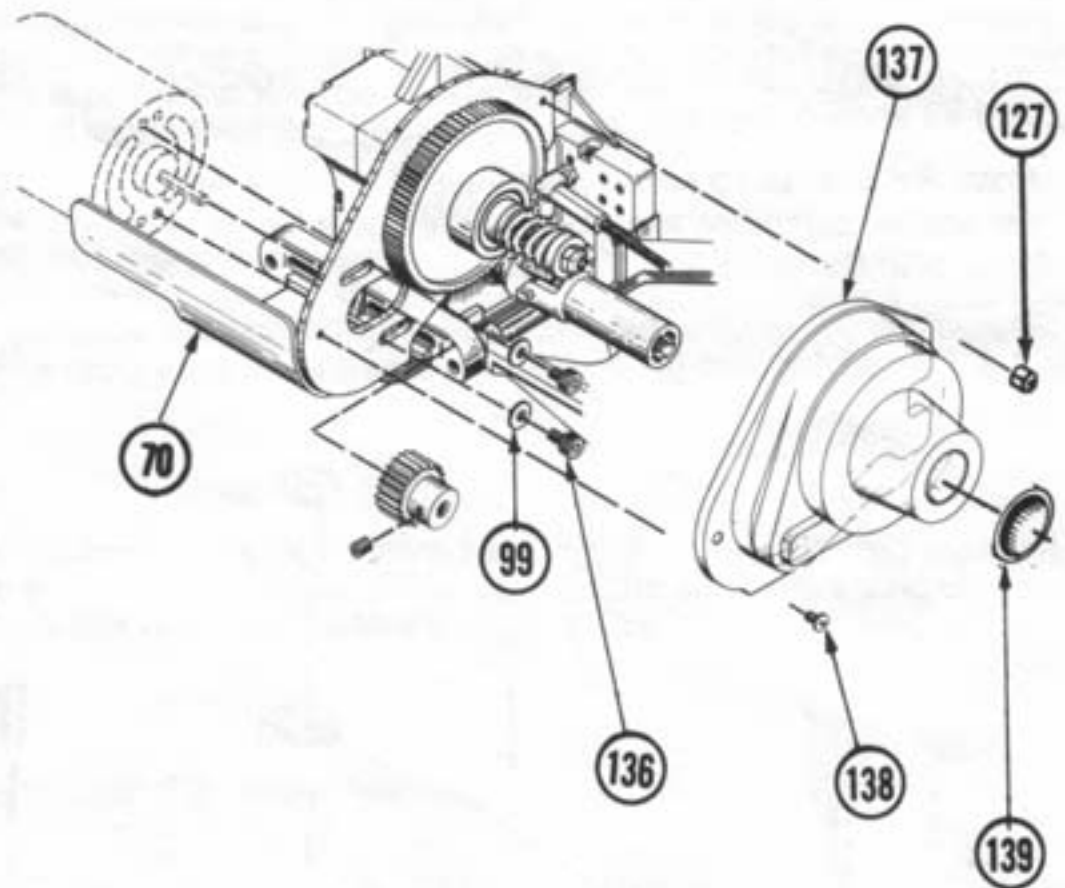

Figure 54
1. Attach motor to motor plate (70) using 3mm x 8mm caphead screws (136) and #4 washers (99). Fig. 54
2. Attach pinion gear to motor shaft, adjust gear mesh, and tighten motor to motorplate (70)
3. Locate trimmed gear cover (137) onto motorplate (70) and secure with a 4-40 nylon nut (127) on top forward 4-40 x 1 3/4" caphead screw (98). Thread a 4-40 x 1/8" buttonhead screw (138) into rear lower hole of motorplate (70). Insert gear cover plug (139) into large hole in gear cover (137). Fig. 54